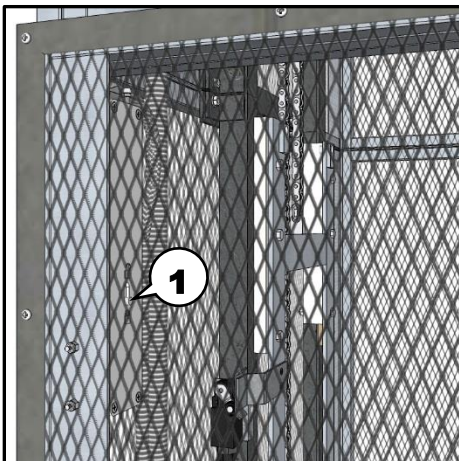

Figure 33
- 1** Open bottom floor door using a screw driver to manually release RDI door interlock as described on page 20. (see **Figures 33 & 36**)
- 1** To manually release the Honeywell RDI door interlock use a screw driver or other long slender object to push the manual release up and open the door. (see Figures 33 & 36)